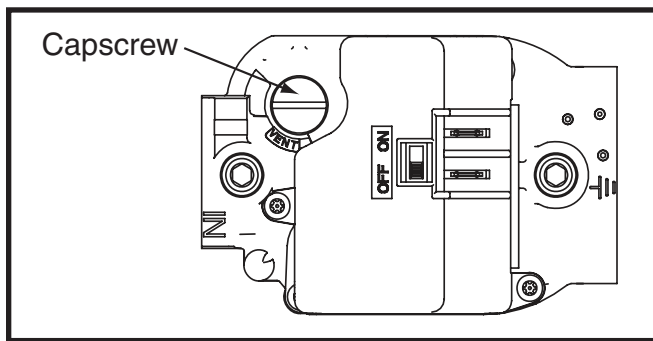

Figure 15. Regulator Capscrew
- Remove the regulator capscrew from the INLET side of the regulator. See \(Figure 15\).